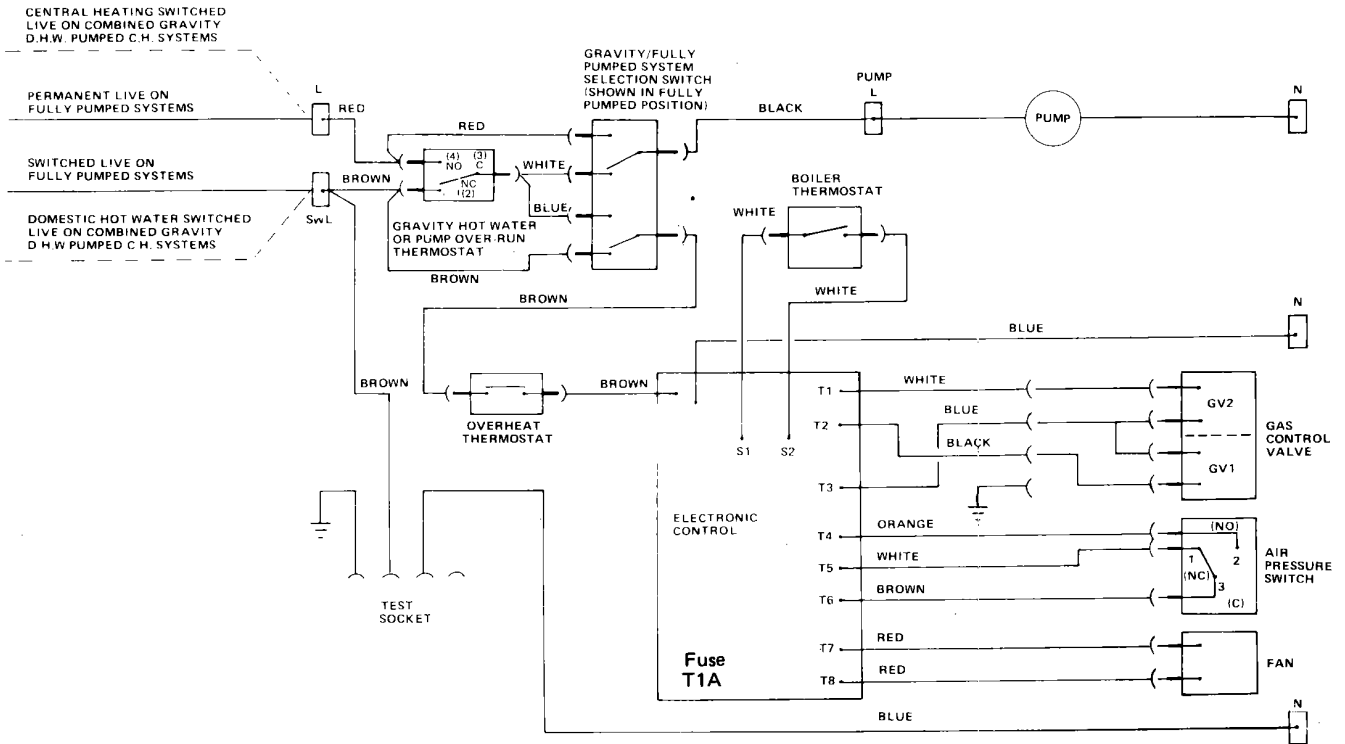

Fig. 27 FUNCTIONAL FLOW DIAGRAM
Refer to Fault Finding Chart FIG. 31 and Wiring Diagram FIGS. 27, 28.
- 4. Disconnect the electrical supply from the gas valve. Note: White Rodgers, has individual Wire positions. Refer to FIGS. 27 and 28.